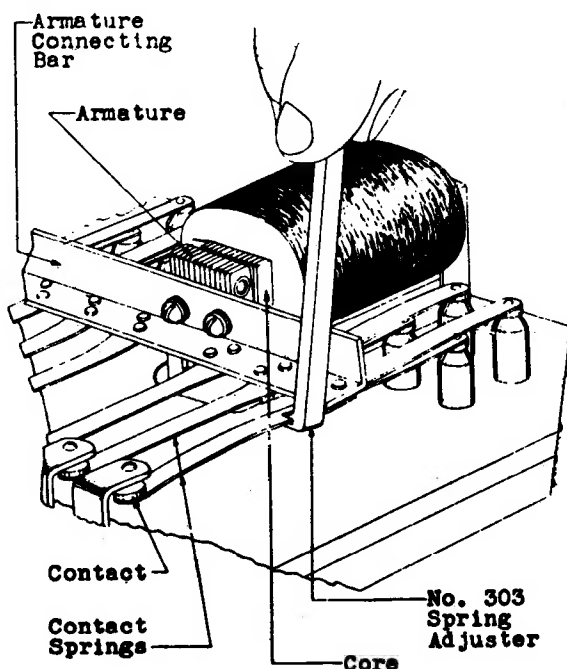

Fig. 4 - Method of Adjusting For Contact Pressure
**M-3 Contact Pressure** If the contact springs do not have sufficient tension against the contacts hold the armature connecting bar so that the armatures rest against the back stops. Increase the tension of the springs by adjusting them toward the contacts using the No. 303 spring adjuster applied close to the point where the springs are riveted to the armature connecting bar as shown in Fig. 4. In adjusting the springs exercise care not to twist them since this will prevent the contacts from resting flat against each other.